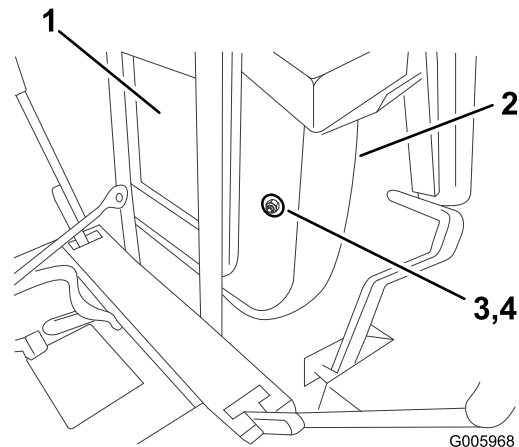

Figure 1
2. Remove the two bolts and washers holding the seat cushion to the seat pan and remove the seat cushion (Figure 1). Retain the seat cushion fasteners for later use.
- Install the seat cushion with the two bolts and washers previously removed (Figure 1).